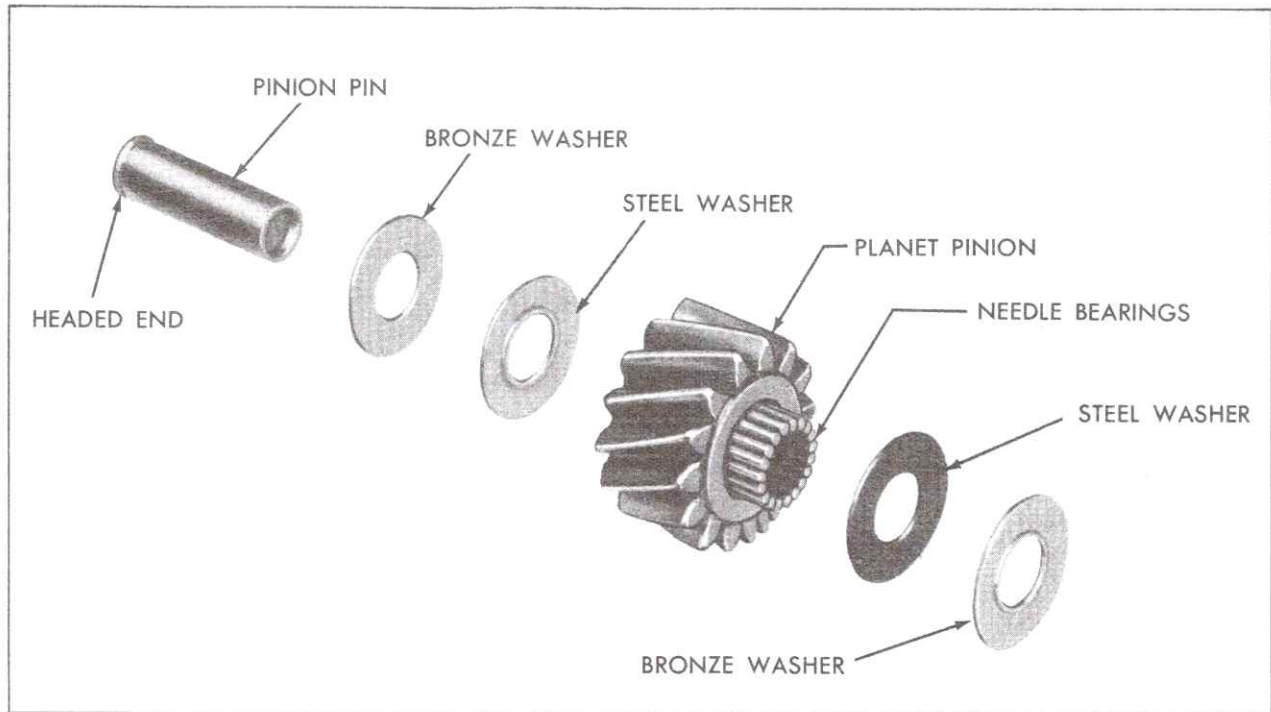

Fig. 7-165 Planet Pinion Assembly Disassembled
- f. Place a bronze and steel thrust washer on each side of pinion gear with steel washers against gear, Fig. 7-165. Hold washers in place with petrolatum.